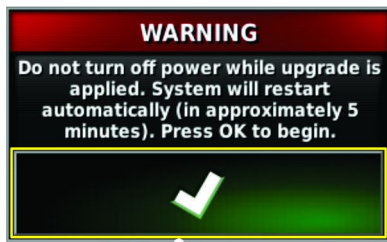

Figure 25
4. In the warning dialog box, press the confirm icon (Figure 25).